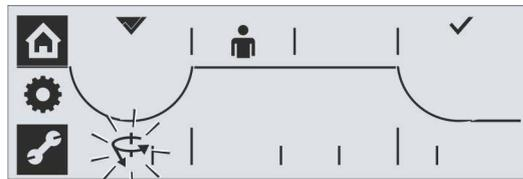

Fig. 10: Torque dependent cut-off mode in end position CLOSED
12. Save end positions: Press Drive Controller. Tick symbol confirms saving of the first end position. The display changes to the other end position (in our example to end position CLOSED) and for programming the cut-off mode – the symbol for the currently set cut-off mode, travel or torque dependent, in end position CLOSED is blinking refer to fig. 10.